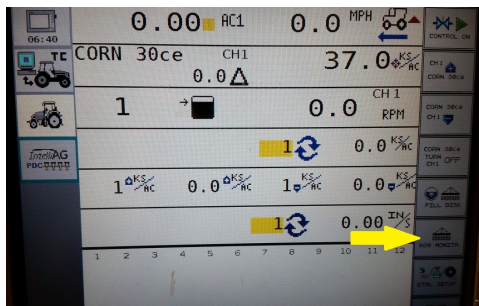

Figure 31
Step 2. Select **Row Monitor** from icons on right hand side of screen. (Figure 31)